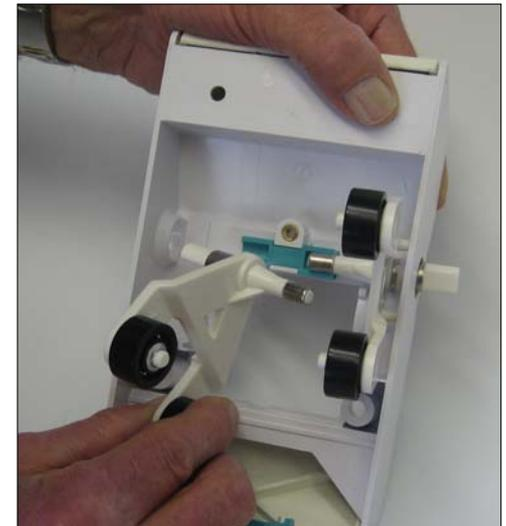

Figure 29
3. Pull the A-Frame arms in towards each other from inside the lower body to remove (fig 29)